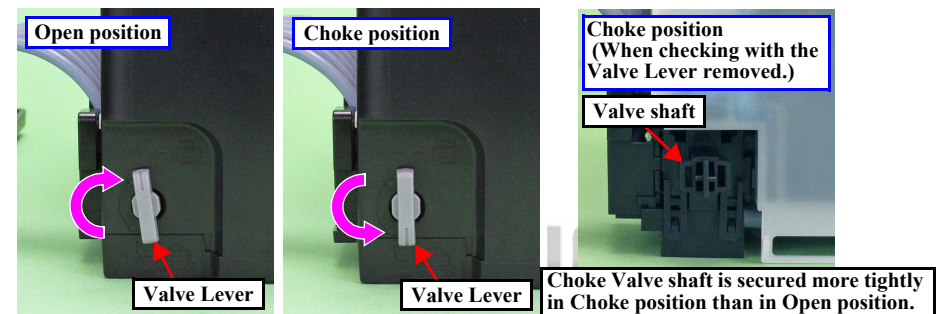

Figure 1-3. Opening/closing the Choke Valve
- The Valve Lever is on the position shown below (the Choke Valve is closed). (See Figure 1-3.)